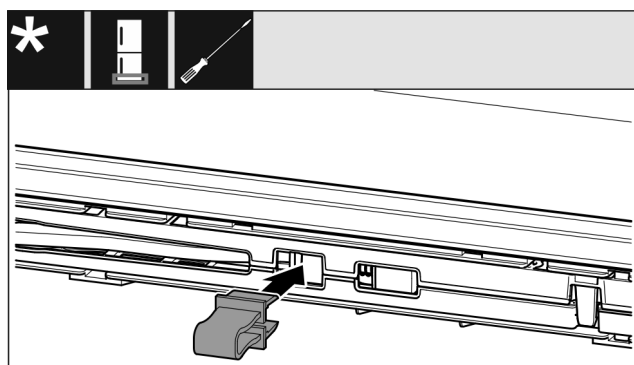

Fig. 16
- ▶ Latch safeguard into opening. (see Fig. 16)